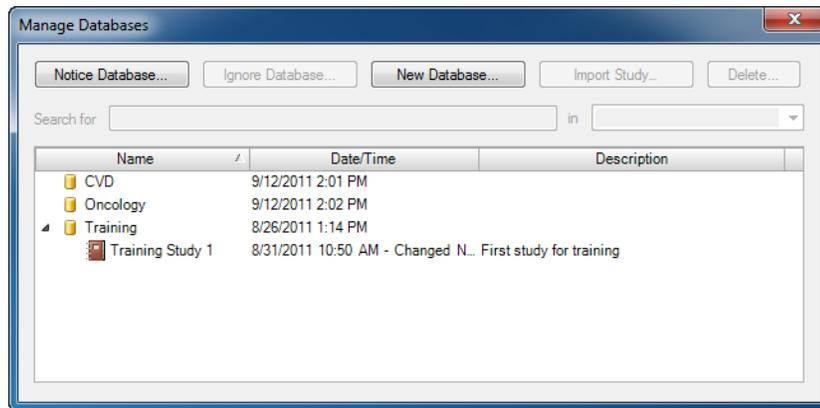

Figure 10-2.Manage Databases Window
2. Select **Database | Manage** from the menu. The **Manage Databases** window opens as shown in Figure 10-2.